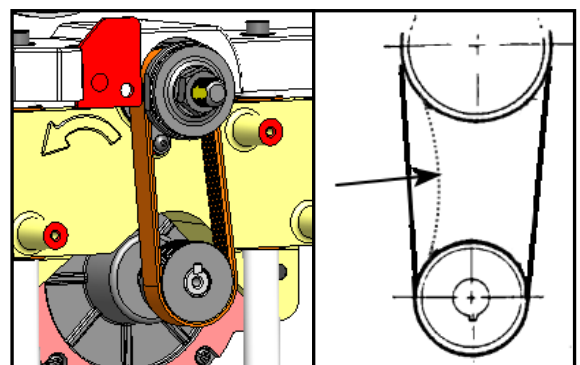

Fig. 34
6. Press the belt in the center to check belt tension. The belt correct tension about 1/8" deflection, Fig.34.